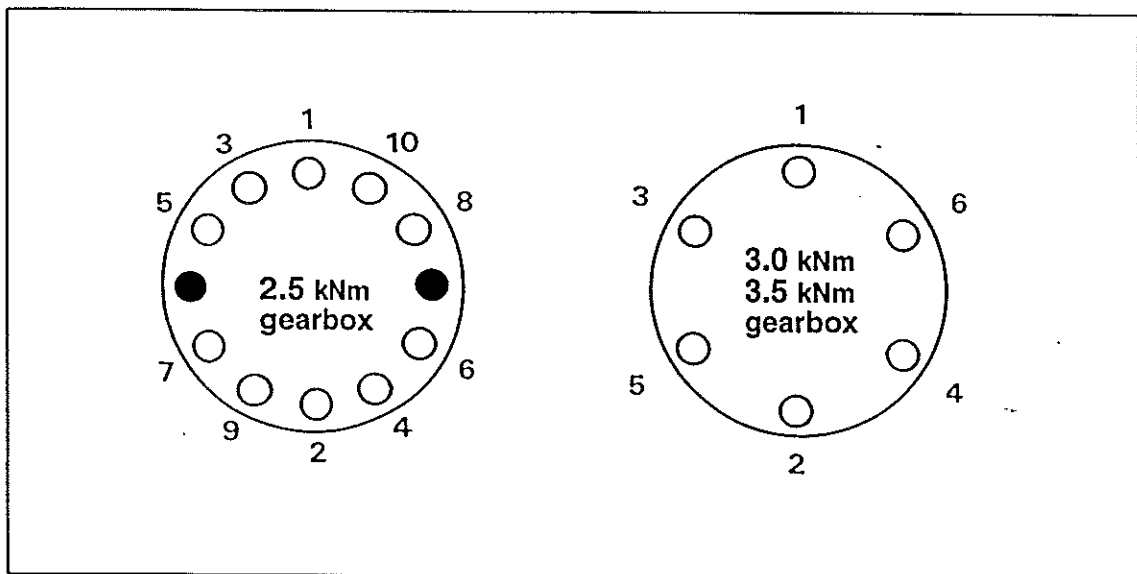

Figure 4.1.5
2.5 kNm Gearbox Insert the ten screws (5/16" UNC) assembling the gearbox adapter to the gearbox and tighten them to a torque of 24 Nm (212 in-lbs) in the sequence indicated in Figure 4.1.5. *Be sure to use an 1/4" hexagon key and not a 6 mm key, as this might damage the screws.*
3.0 kNm Gearbox Insert the six screws (M16) assembling the gearbox adapter to the gearbox and tighten them to a torque of 192 Nm (1700 in-lbs) in the sequence indicated in Figure 4.1.5.